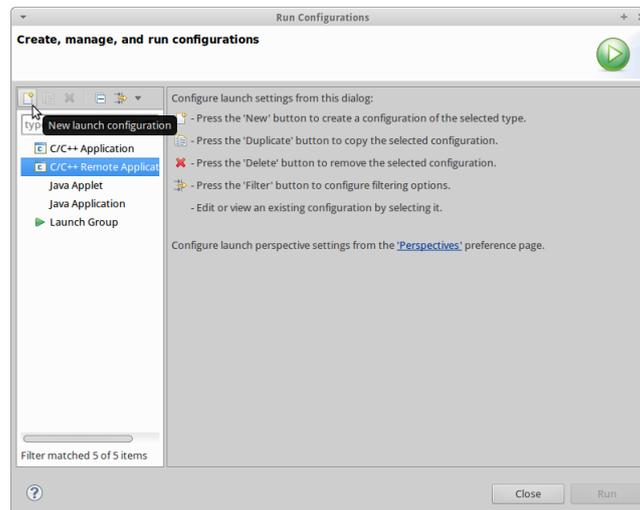

Figure 44: Adding a new launch configuration
**C/C++ Remote Application** must be chosen as run configuration type, and a new launch configuration is added by clicking the **Add** symbol as shown in ▶ Figure 44.